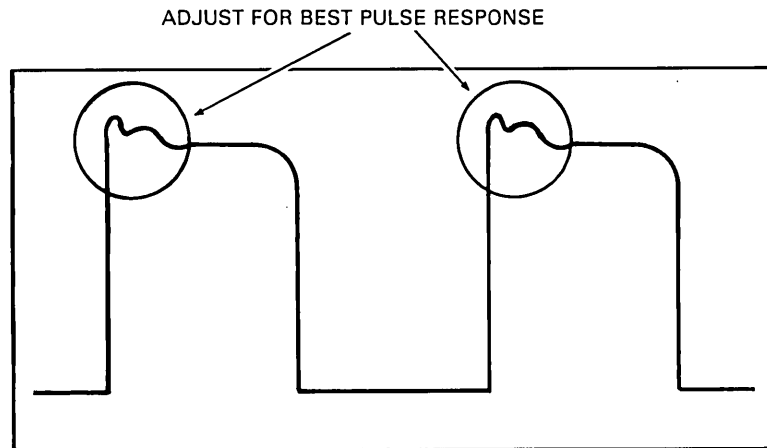

Figure 5-9. X-amplifier Pulse Response Adjustment
- e. Set LF ADJ No. 1 (A2R24) and LF ADJ No. 2 (A1C17) for flattest pulse response as indicated in figure 5-9.